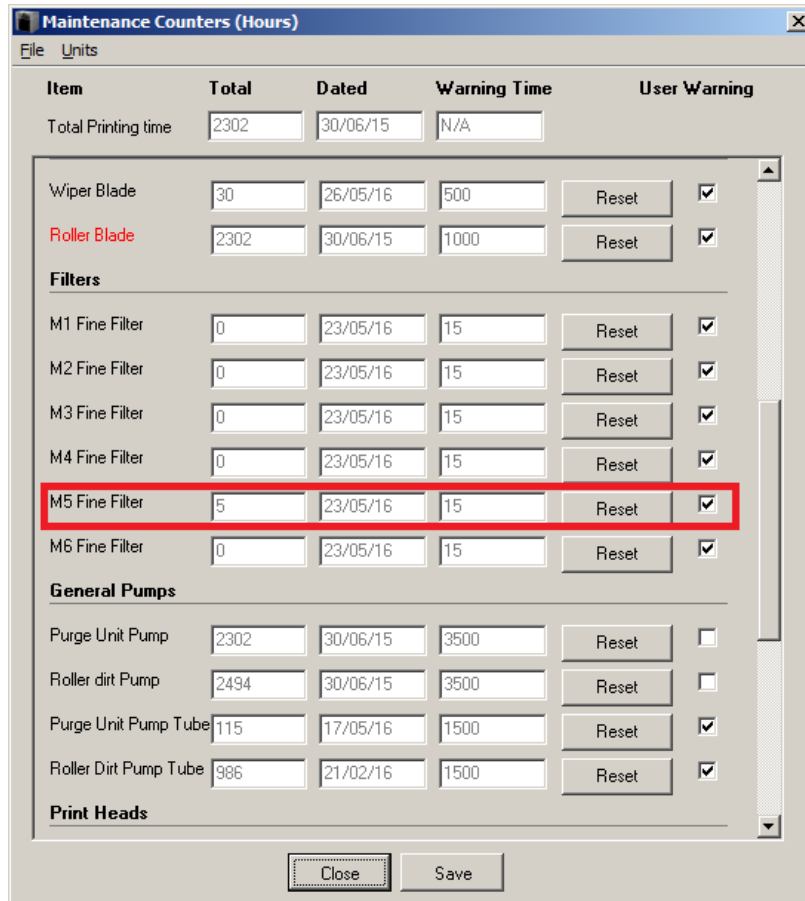

Figure 4-126 Maintenance Counters screen, showing material filters
12. In the *Maintenance Counters* screen, click *Reset* and then *Close* (see Figure 4-126 on page 4-81).
- In the *Maintenance Counters* screen, click *Reset* and then *Close* (see Figure 4-126 on page 4-81).